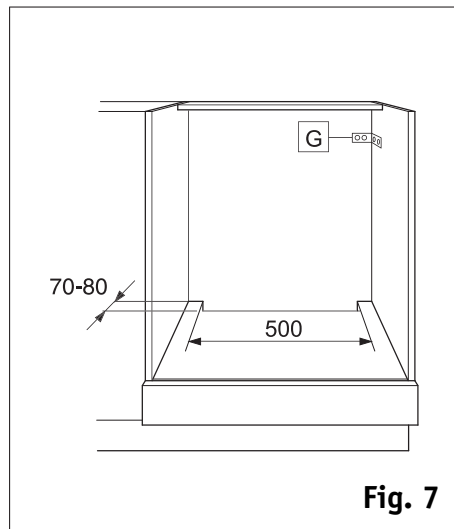

Fig. 7
- If the kitchen unit is not securely fixed to the wall, it must be anchored with standard brackets (G) (fig. 7) available on the market.